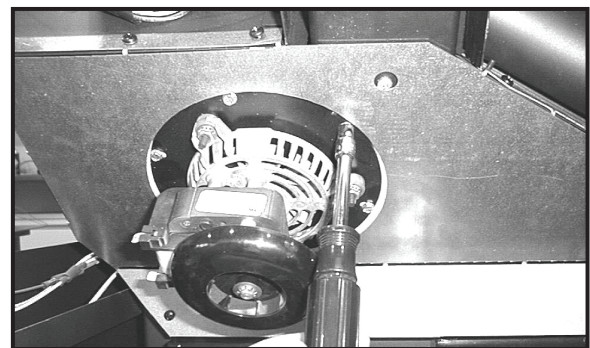

Figure 27.4
- There is a removable plate on the exhaust blower. Using a 1/4" socket or short standard screwdriver loosen the 6 screws in the keyhole shaped holes and rotate the plate (Figure 27.4).